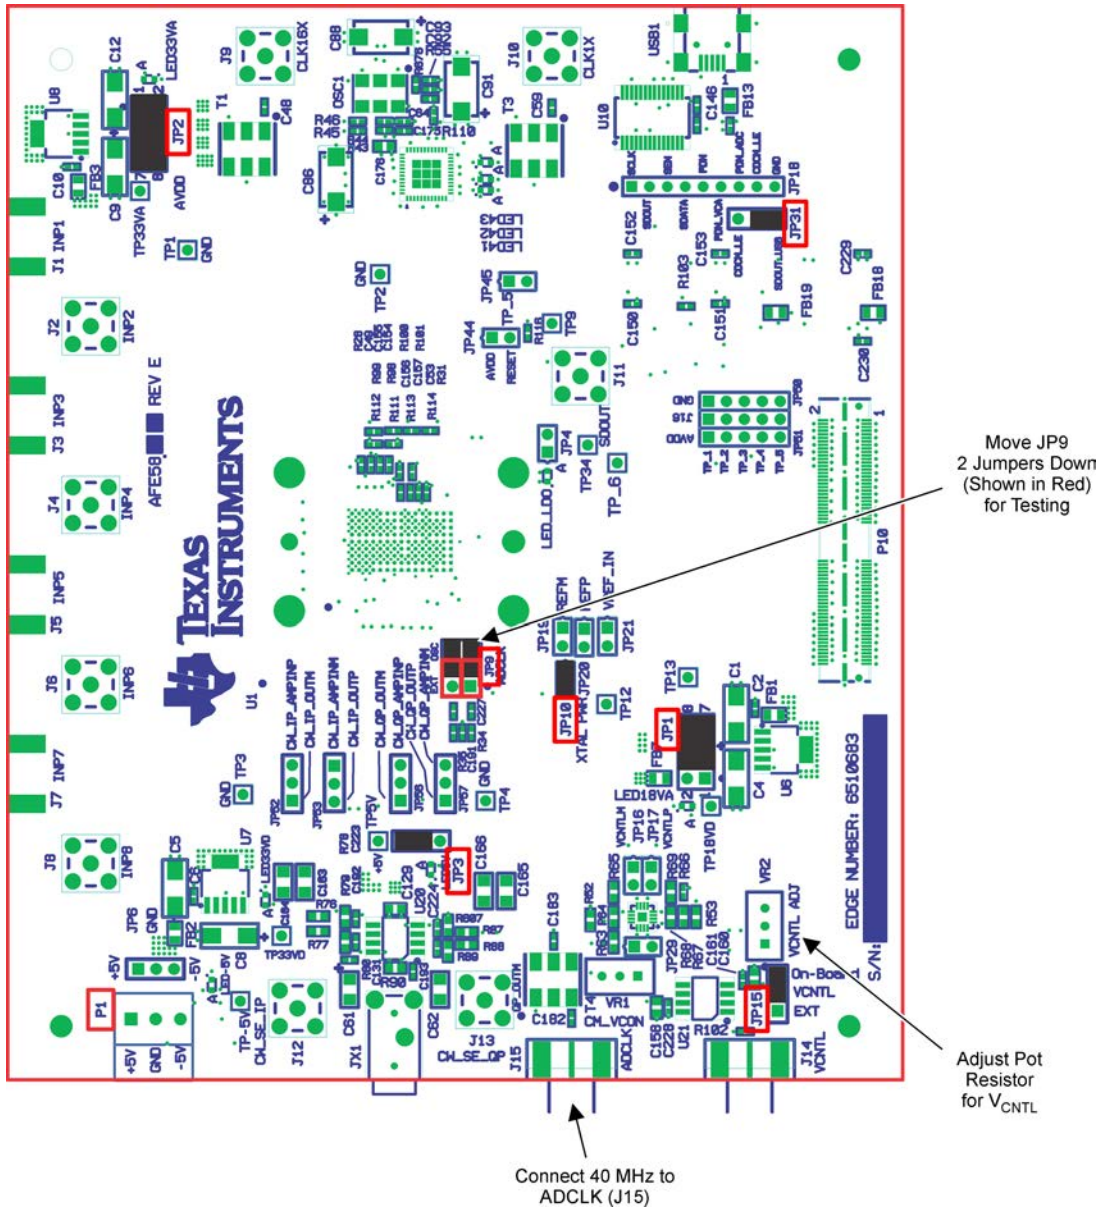

Figure 1. AFE5807EVM Basic Configuration
Figure 1 shows the default configuration of the EVM from the factory. The accompanying list identifies the basic components on the EVM board.
6. JP31 always set as Figure 1.
Two EVMs are required to evaluate the AFE5807 device. The following illustration shows the exact setup of these two boards and external connectors. For the default configuration as shown in Figure 1, it is unnecessary to have an external sampling clock and external Vcntl supply. The onboard CMOS clock and onboard Vcntl are used.